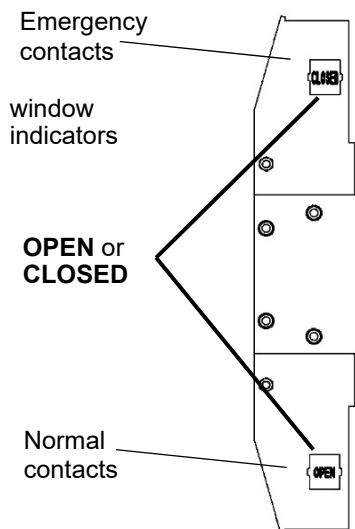
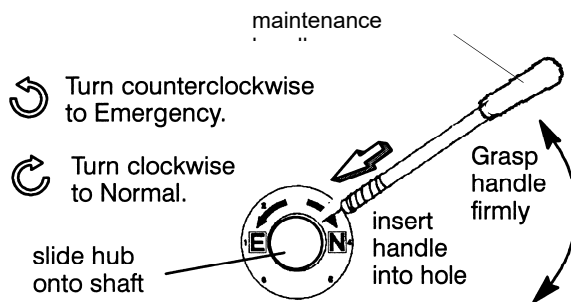

Figure 2. Main contact position indicators on right side.
Figure 3. Maintenance handle on 7ATS.
1. After deenergizing both power sources, open the enclosure door. Locate and remove the maintenance handle from the clip on the left side of the transfer switch. See Figures 3, 4, and 5. See Figure 2 for the contact position indicators.